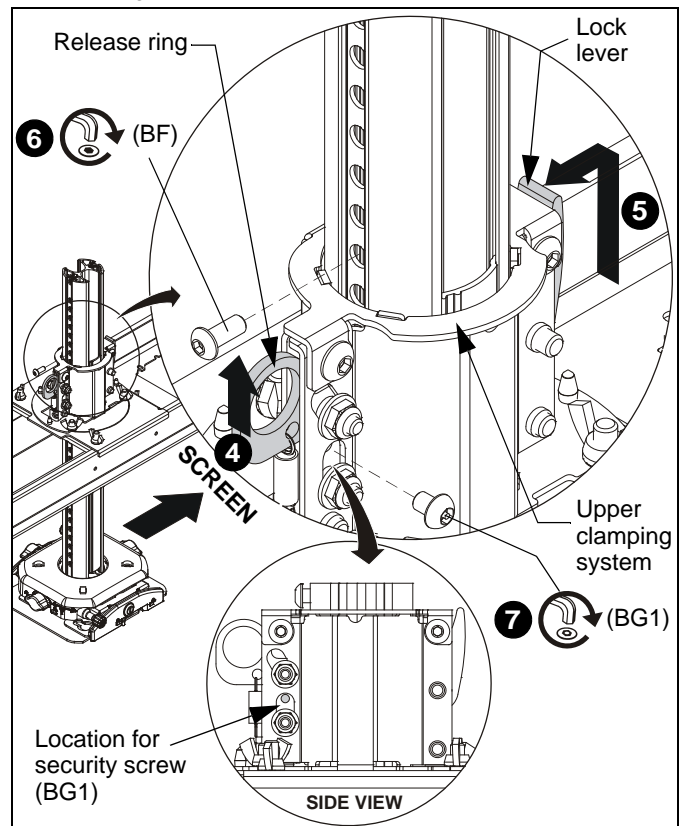

Figure 18
- IMPORTANT ! :** At least one full hole (on side of column) must be visible above the upper clamping system. (See Figure 18)
4. If necessary, pull up on the release ring found on the suspended ceiling plate assembly (R) in order to move the column downward. (See Figure 18)
5. Push lock lever up to stabilize motion of the projector mount. (See Figure 18)
6. Install one 1/4-20 x 5/8" button head screw (BF) into extension column in first opening above column collar, tightening firmly against column. (See Figure 18)
7. Install one 10-24 x 1/4" security button head screw (BG1) into column mechanism on suspended ceiling plate assembly to prevent movement of the release ring and further movement of the column. (See Figure 18)